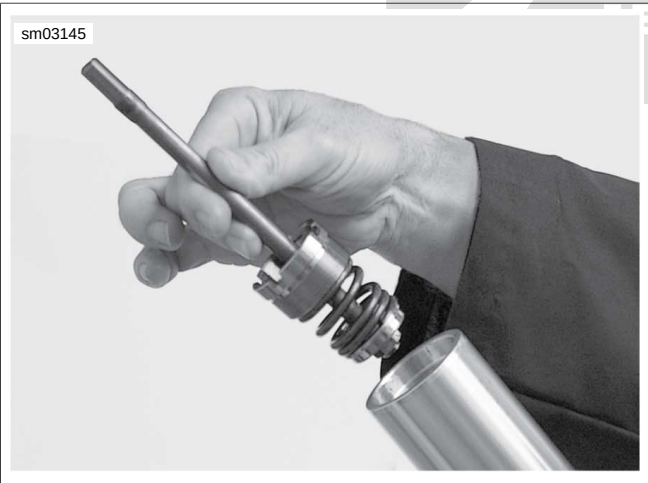

Figure 1-91. Inner Fork Nut
- 4. See Figure 1-91. Using INNER FORK NUT REMOVER/INSTALLER (Part No. HD-47852), remove inner fork nut assembly from fork tube.